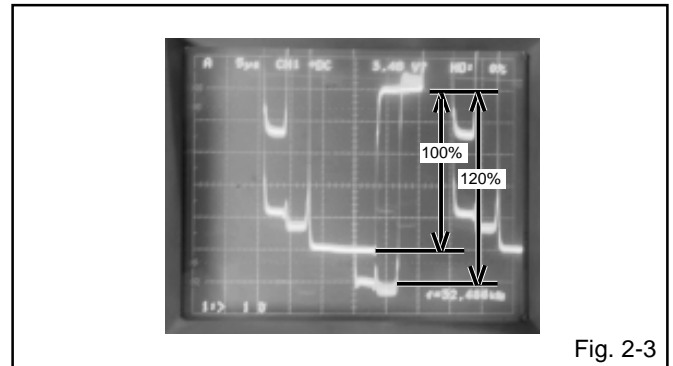

Fig. 2-3
7. Press the VOL. UP/DOWN button on the remote control until the red color level is adjusted to $105 \pm 10\%$ of the white level. (**Refer to Fig. 2-3**)